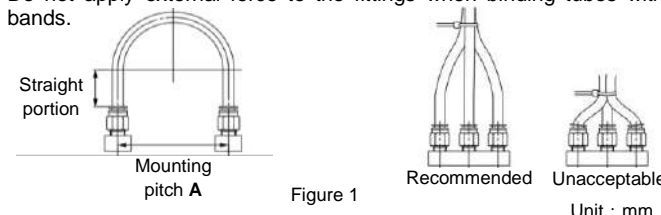

Figure 1
- When connecting tubes using one-touch fittings, provide some spare tube length as shown in Fig 1.